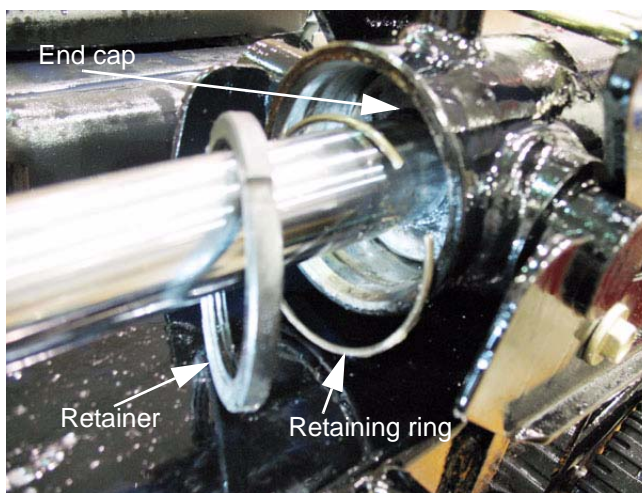

Figure 5.4
- 2.7. Pry the retaining ring out of its groove. See Figure 5.4.